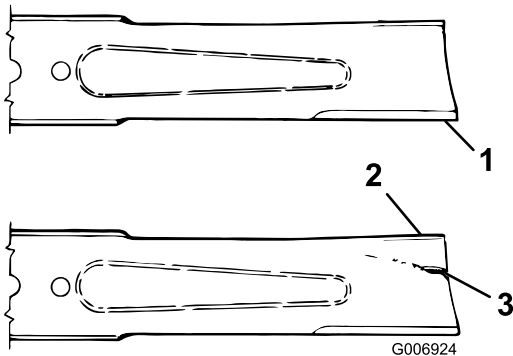

Figure 67
3. Examine the cutting ends of the blade carefully, especially where the flat and curved parts of the blade meet (Figure 67).
4. If wear is noticed (Figure 67), replace the blade; refer to Servicing the Blade Plane (page 56).
If the blade is allowed to wear, a slot will form between the sail and flat part of the blade (Figure 67). Eventually a piece of the blade may break off and be thrown from under the housing, possibly resulting in serious injury to yourself or bystanders.